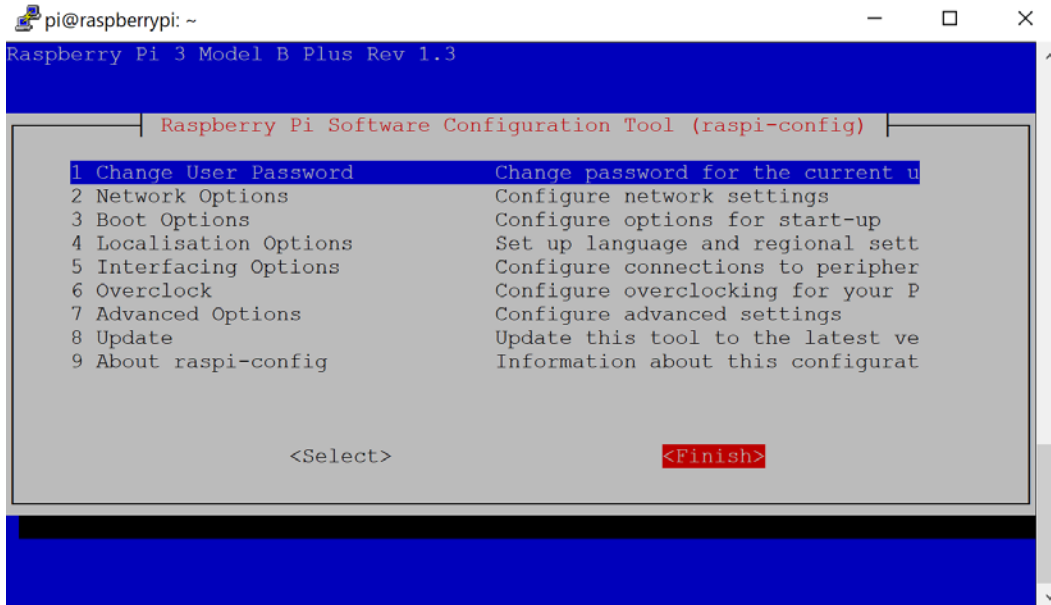

Figure 4.9 – Select Finish
1. Use the *Tab* button to get to the **Finish** item (*Figure 4.9*) and press *Enter*: